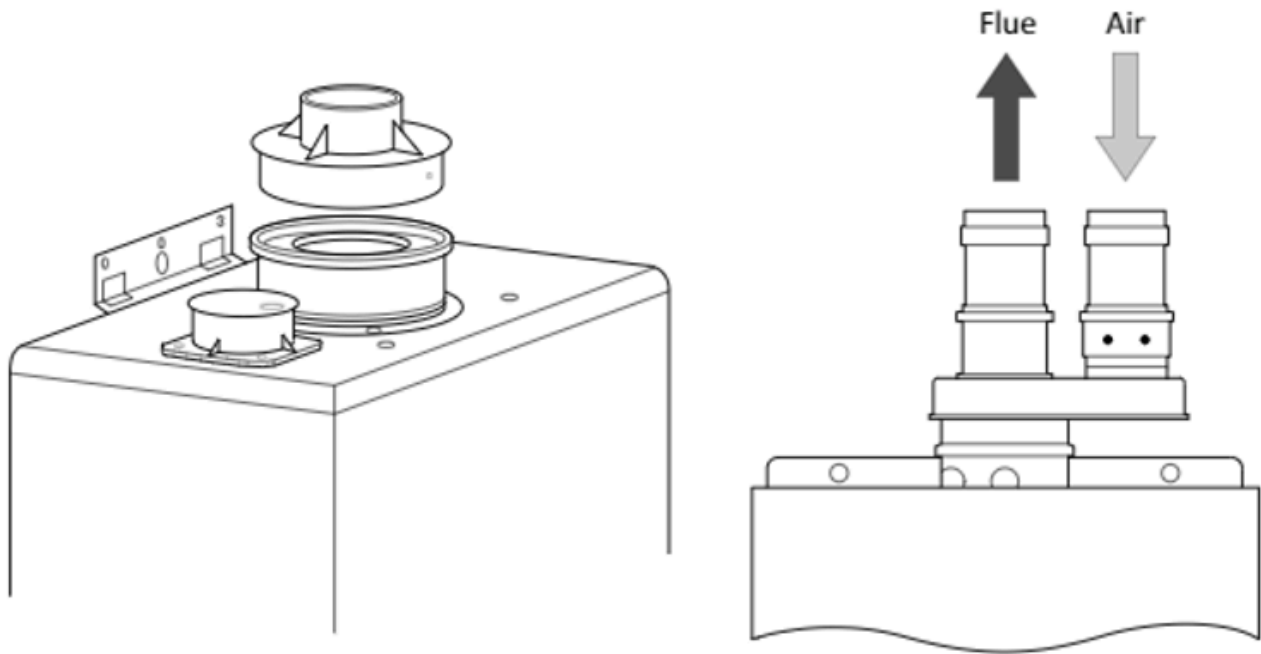

Figure 2. Direct vent starter adapters
appliances. Some direct vent appliances are designed to use either concentric or twin pipe direct vent options, with the use of the manufacture supplied starter adapter (Figure 2).
- Figure 2. “Direct vent starter adapters” – The source for this image is unknown. It is being used for non-commercial, educational purposes. To receive credit for this image, please reach out to the publisher.